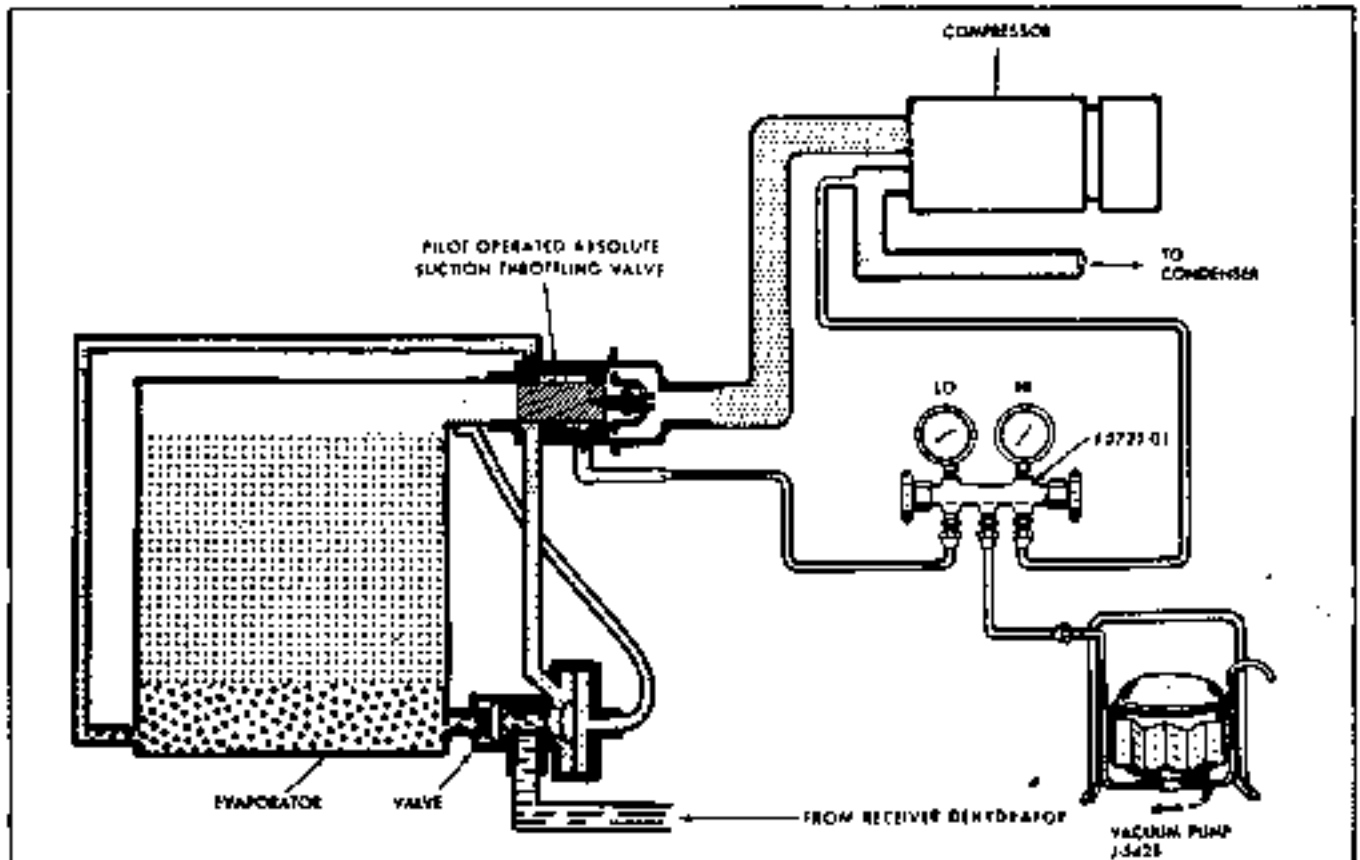

Fig. 1A-2 Schematic - Evacuating Refrigerant System
2. If gauge set is not already connected to P.O.A. valve and compressor, connect as follows (Fig. 1A-2).
3. Attach a flexible gauge hose to center fitting of the gauge set and attach the other end of this hose to the vacuum pump J 5428 or J 5428-01 (Fig. 1A-2).